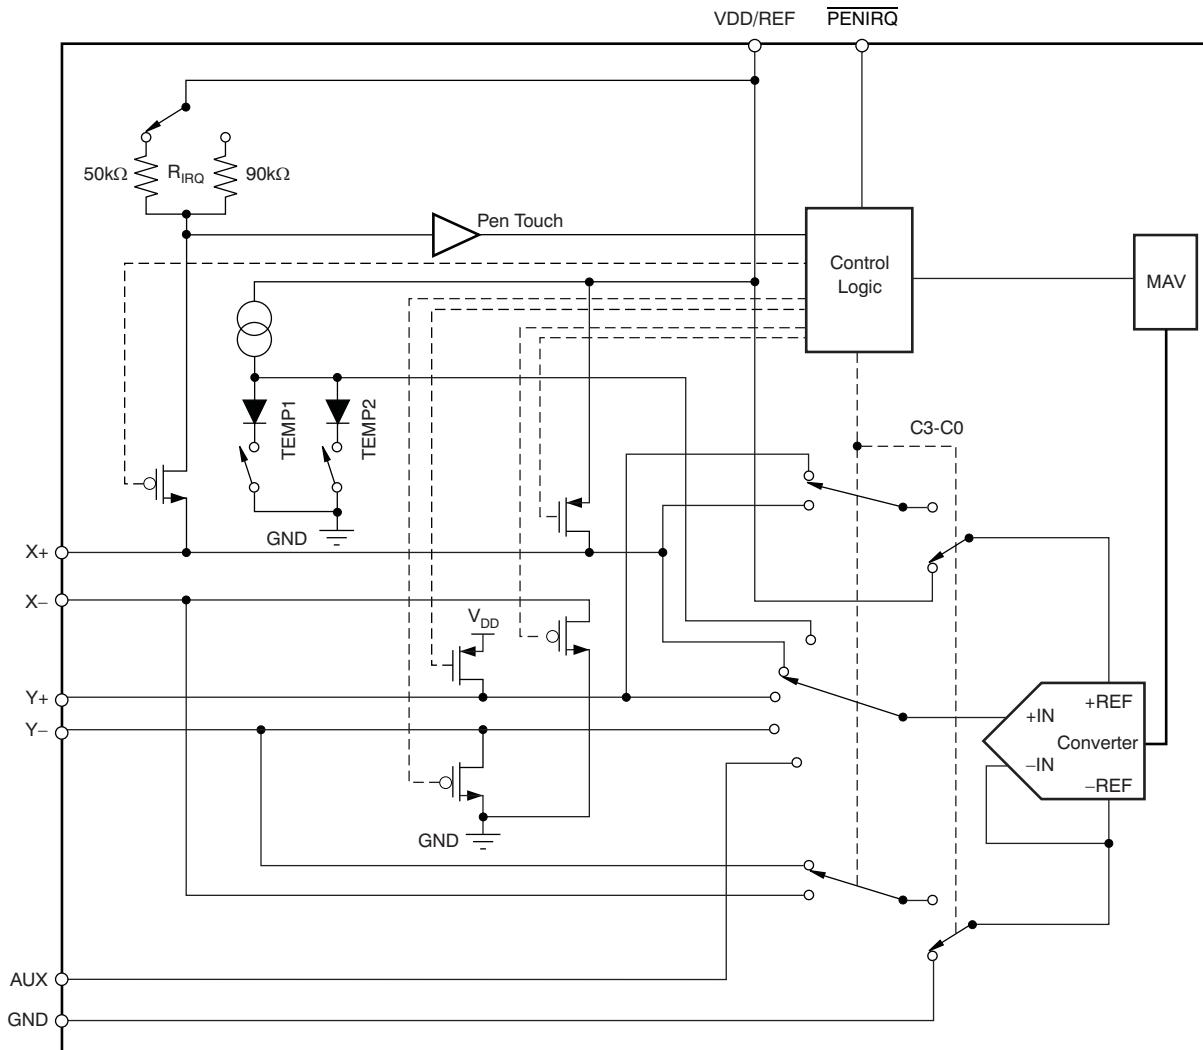

Figure 23. Simplified Diagram of the Analog Input Section
Figure 23 shows the analog inputs of the TSC2007. The analog inputs (X, Y, and Z touch panel coordinates, chip temperature and auxiliary inputs) are provided via a multiplexer to the Successive Approximation Register (SAR) Analog-to-Digital (A/D) converter. The A/D architecture is based on capacitive redistribution architecture, which inherently includes a sample-and-hold function.
(1) Reference voltage at converter: +REF – (–REF). See Figure 23.
(2) Input voltage at converter, after multiplexer: +IN – (–IN). See Figure 23.